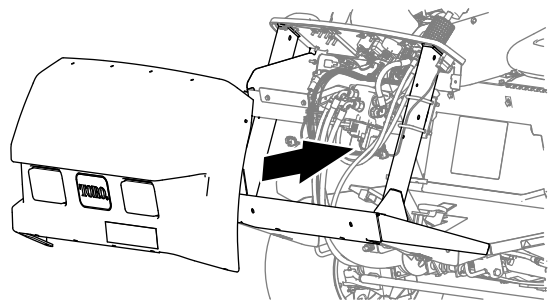

Figure 139
1. Align the holes in the hood with the holes in the chassis of the machine (Figure 139).